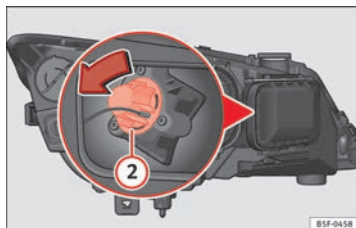

Fig. 188 Turn signal bulb.
- Turn the bulb holder ⇒ Fig. 188 ② to the left and pull.